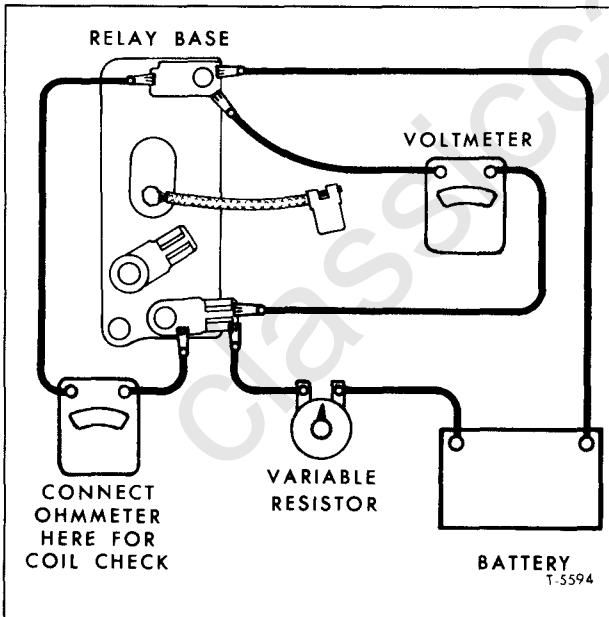

Figure 31—Field Relay Unit Check
The relay unit may be checked as follows. Refer to figure 31 for test connections.
1. Connect an ohmmeter across terminals as shown in figure 31. An infinite reading indicates an open shunt coil which will require replacing the relay.
2. To check closing voltage, connect a battery, 50 ohm variable resistor and voltmeter into circuit as shown in figure 31. Slowly decrease resistance and note voltage at which relay points close. If voltage at which points close is not within limits listed in "Specifications" replace the relay.